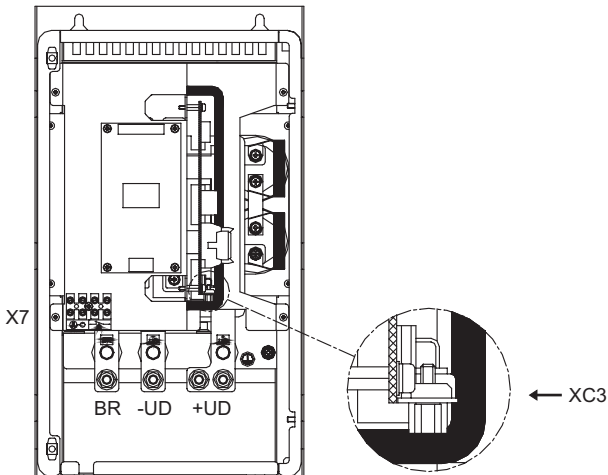
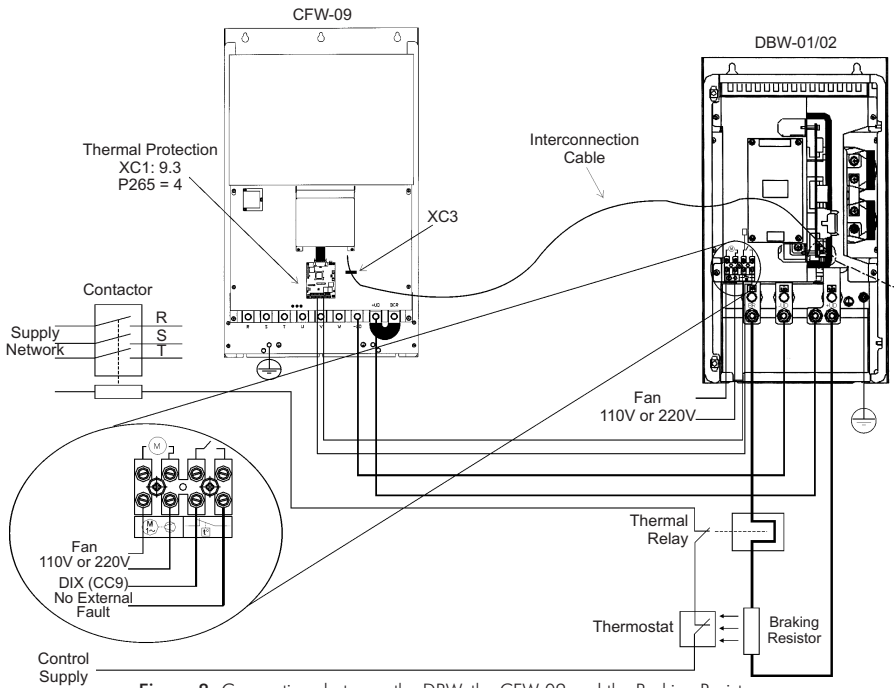

Figure 6: Location of the connectors
Figure 8: Connections between the DBW, the CFW-09 and the Braking Resistor
- Step 4** Connect the +UD grounding of the braking module to the +UD terminal of the inverter, according to figure 8;
- Step 5** Connect the -UD grounding of the braking module to the -UD terminal of the inverter, according to figure 8;
- Step 6** Connect the interconnection cable to connector XC3 (figure 6) on the CRG4 board of the braking module. Attach the other cable end to the Db9 connector, which is fastened to the metallic support in the side of the CFW-09 control board, see figure 8;
- Step 7** Connect the braking resistor and the thermal relay in series, between terminals +UD and BR, according to figure 8.
Figure 8 shows the connection of the braking module to the inverter, as well as the connections of the resistor to the braking module. It shows also the inclusion of a thermal relay and a thermostat in contact with the resistor body, thus ensuring its thermal protection. The connection cables between the inverter and the module and between the module the braking resistor must be dimensioned according to the thermal braking cycle.